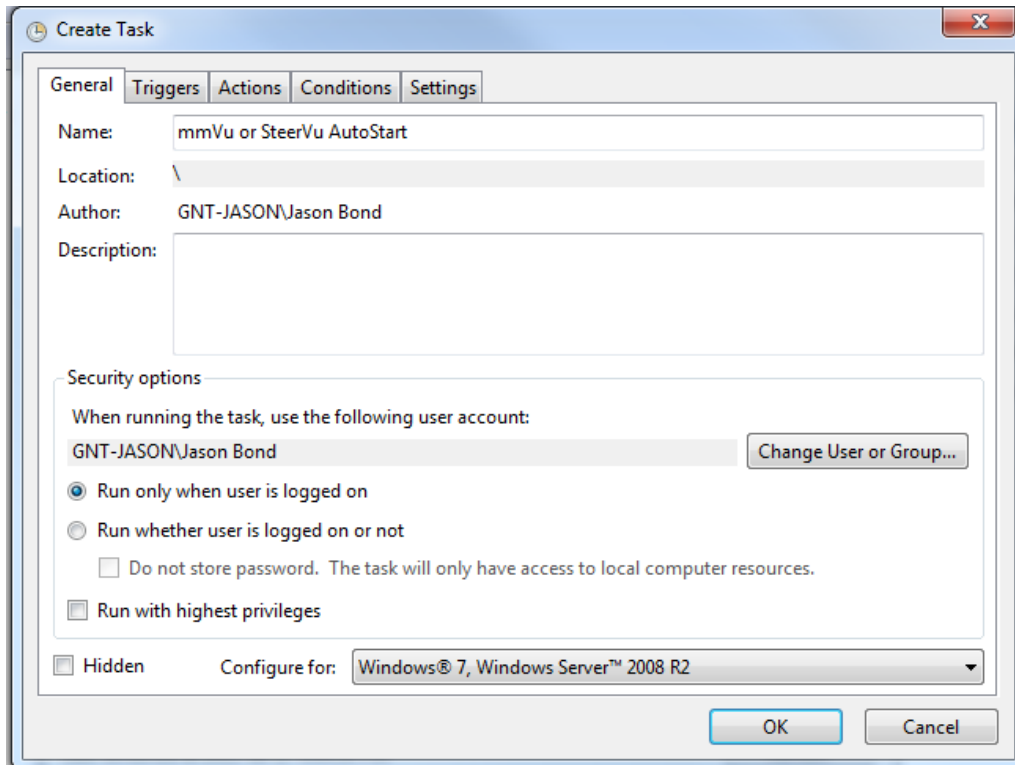

Figure 10: Creating a Task – General
- c. Under the “General” tab, type a name for the Task. Select the operation system being used (Figure 10).